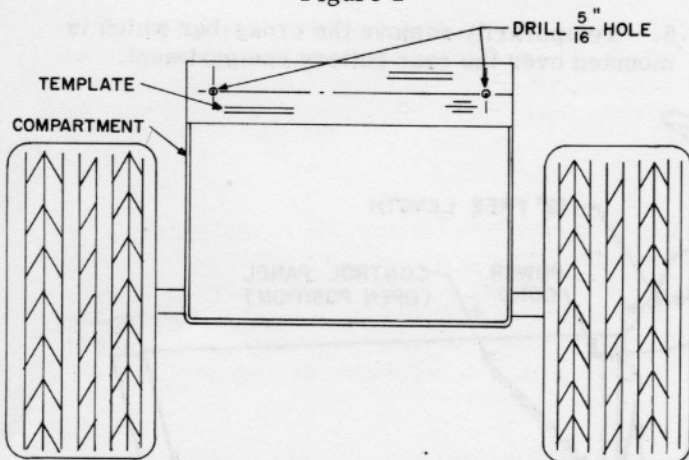

Figure 3. Drilling Rear Battery Compartment
3. Remove the rear battery box cover and seat. Locate and drill two 5/16-inch diameter holes in the back wall of the rear battery compartment using the template provided, as shown in Fig. 3.